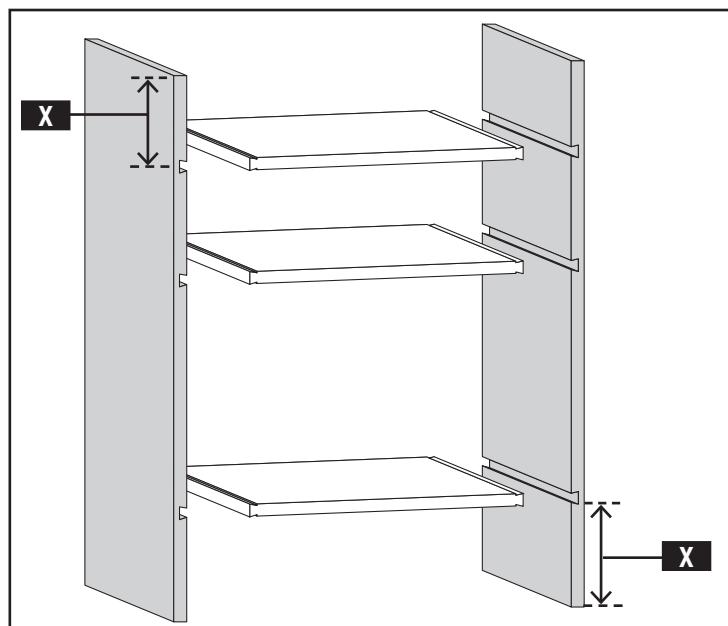

Fig. H5
CAPACITY NOTE: When making the dado cut, your boards need to be long enough to allow the workpiece to be clamped down. There must be at least 7" of material beyond the center of the dado, shown as "X" in Fig H5, to ensure good clamping. If you want the distance (X) to be smaller than 7" in your finished project, you can cut off the unwanted portion after the dado cut is made.